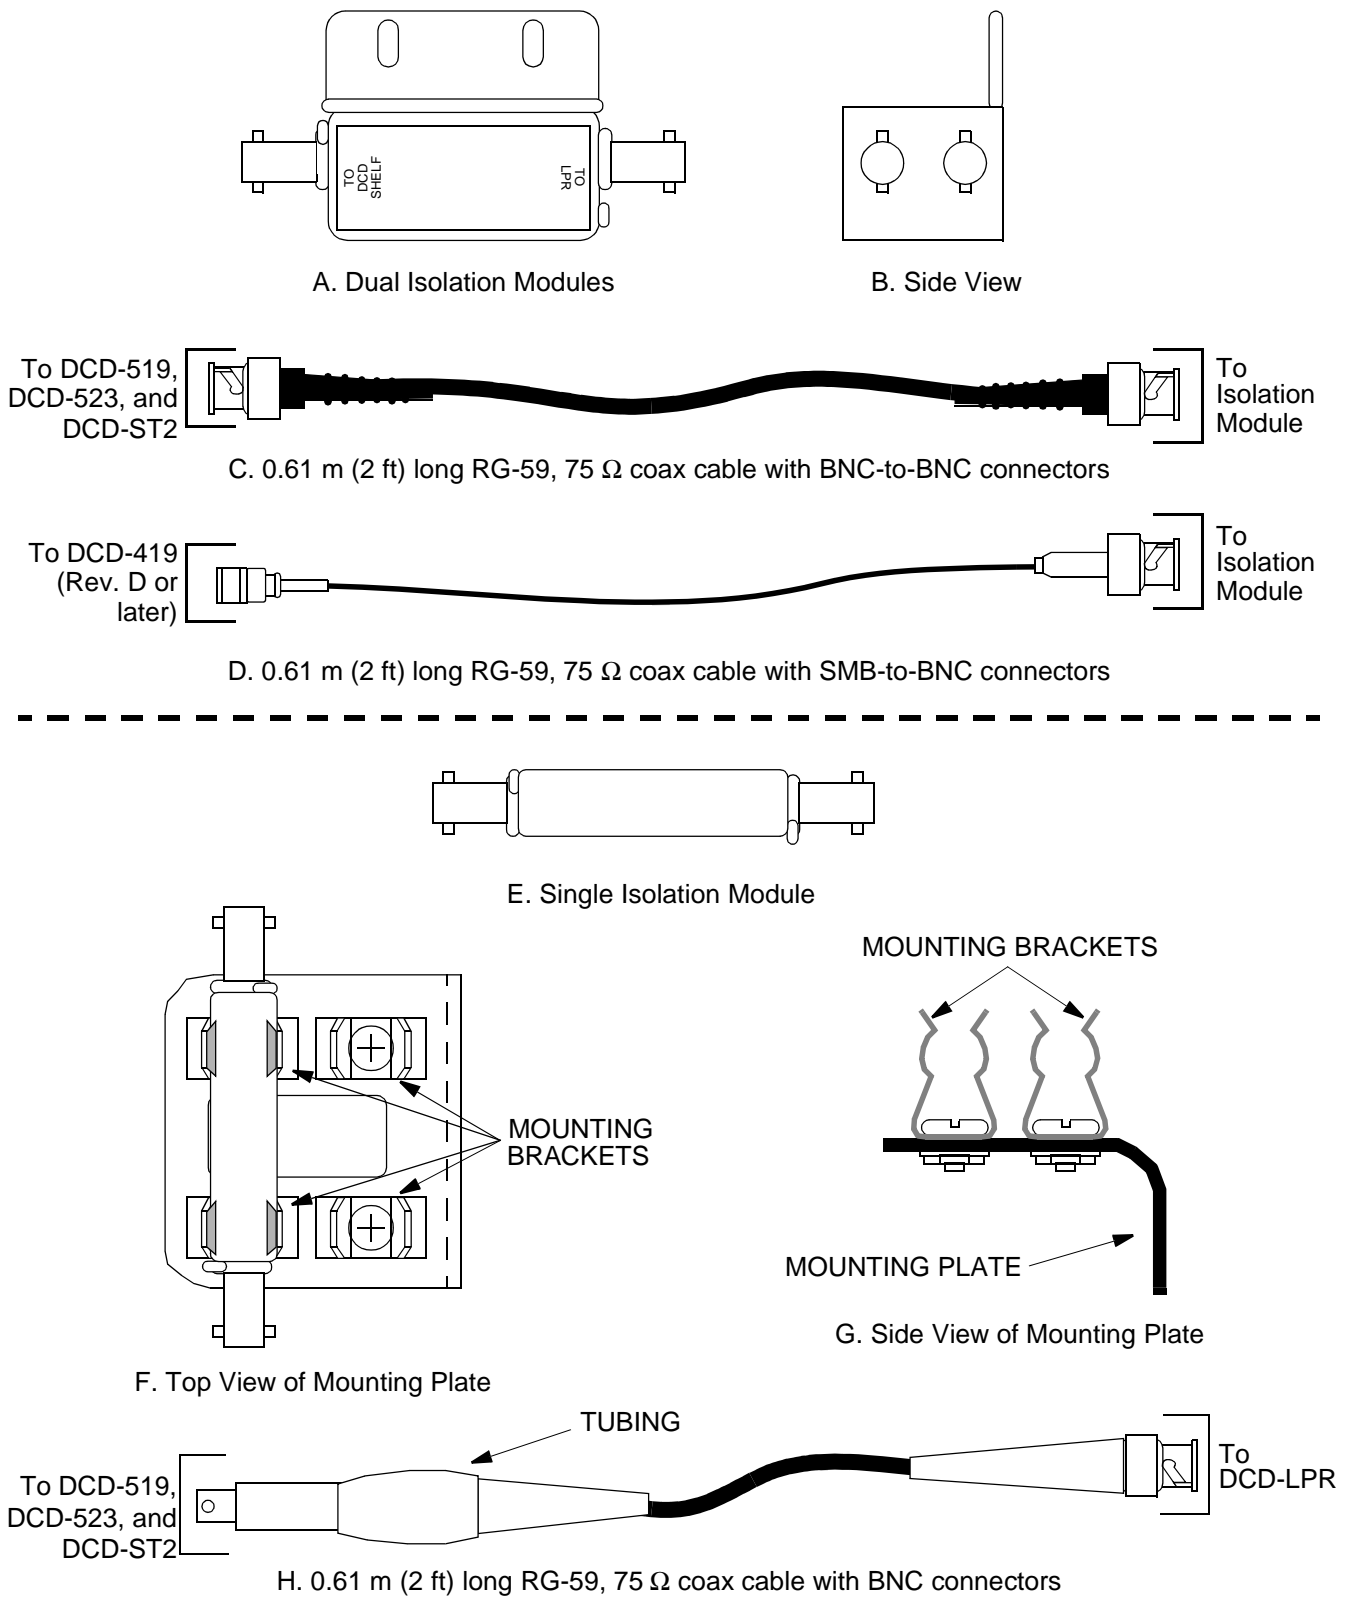

Figure 43. Isolation Modules and Cables
4.33 The isolation kit consists of the module (Figure 43), associated screws, and two 0.61 meter
2. Use the provided 0.61 meter (2 foot) coax cable to connect from the appropriate “A” connector on the DCD Shelf backplane to the “TO DCD SHELF” end of one isolation module (refer to Table J, Figure 43, and Figure 44).
3. Use the 1.8 meter (6 foot) coax cable (from the DCD-LPR hardware kit), and connect from the OSC A connector on the DCD-LPR Shelf to the TO LPR-LORAN end of the isolation module (refer to Figure 43 and Figure 44).
4. If applicable, repeat Steps 1 through 3 to a second isolation module, but connect to the appropriate “B” connector on the DCD Shelf backplane (refer to Figure 43 and Figure 44).